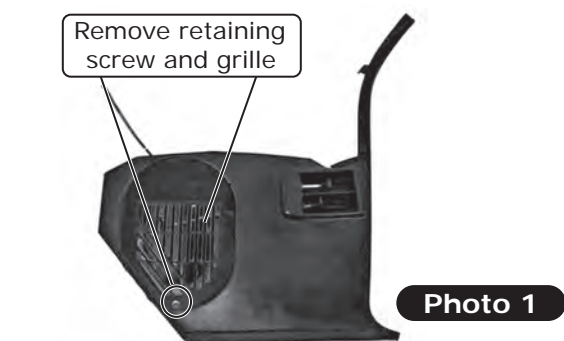

**Figure 1**
1. Install (4) S-clips onto the driver-side hose adapter and (2) S-clips onto the passenger-side hose adapter as shown in Figure 1, below.
2. Install the driver- & passenger-side hose adapters onto the OEM louvers (See Figure 1, below).